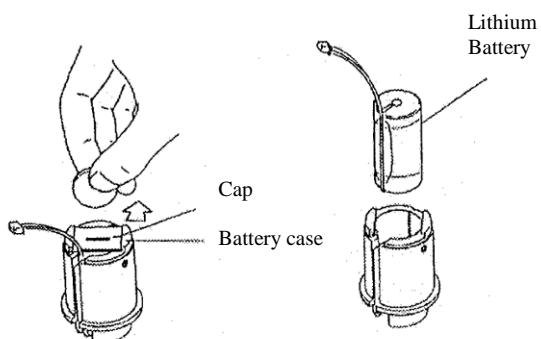

Fig. 9 :
4. Using a coin, turn the cap of the battery case, then remove the battery (Fig. 9).